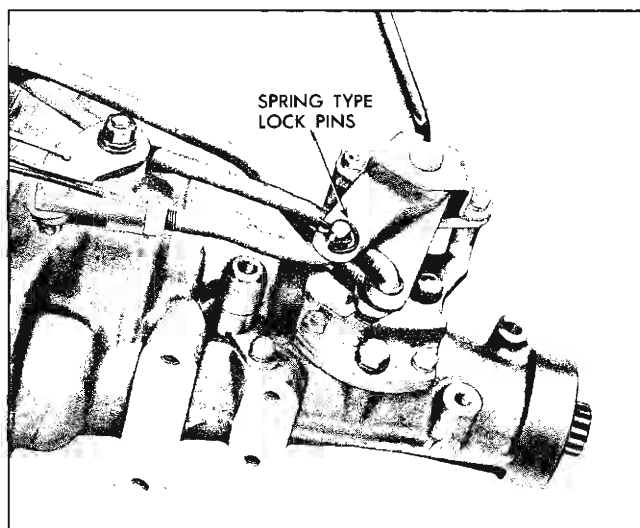

Fig. 7B-34 Installing Spring-Type Lock Pin
8. Connect shift rods to shift bracket at rear extension, using spring-type lock pins (Fig. 7B-34). Connect shift rods to shift levers, using  $\frac{1}{4}$ " cotter